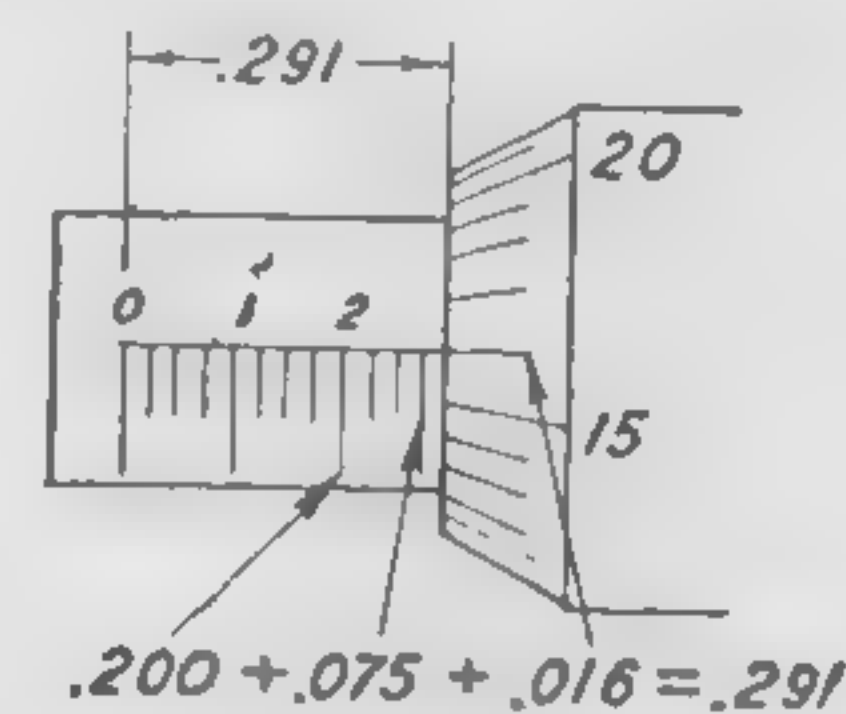

Fig. 26. Method for Reading the Micrometer
4. To make a final reading, go through steps 1, 2, and 3 given above and add together each of these readings, see Figs. 26 and 27. Adding these readings together will give you the final reading.